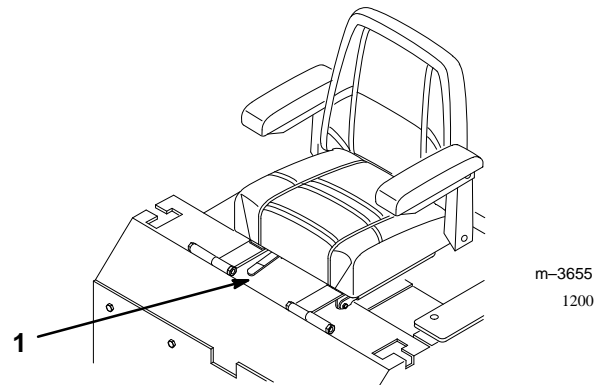

Figure 12
1. To adjust, move the lever sideways to unlock seat (Fig. 12).